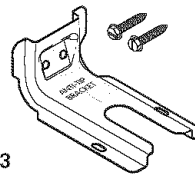

Fig. 13
- Anti-Tip Template (Fig. 12), Anti-Tip bracket, 2 mounting screws (bracket and screws are supplied with range - Fig. 13) and masking tape (Fig. 14).